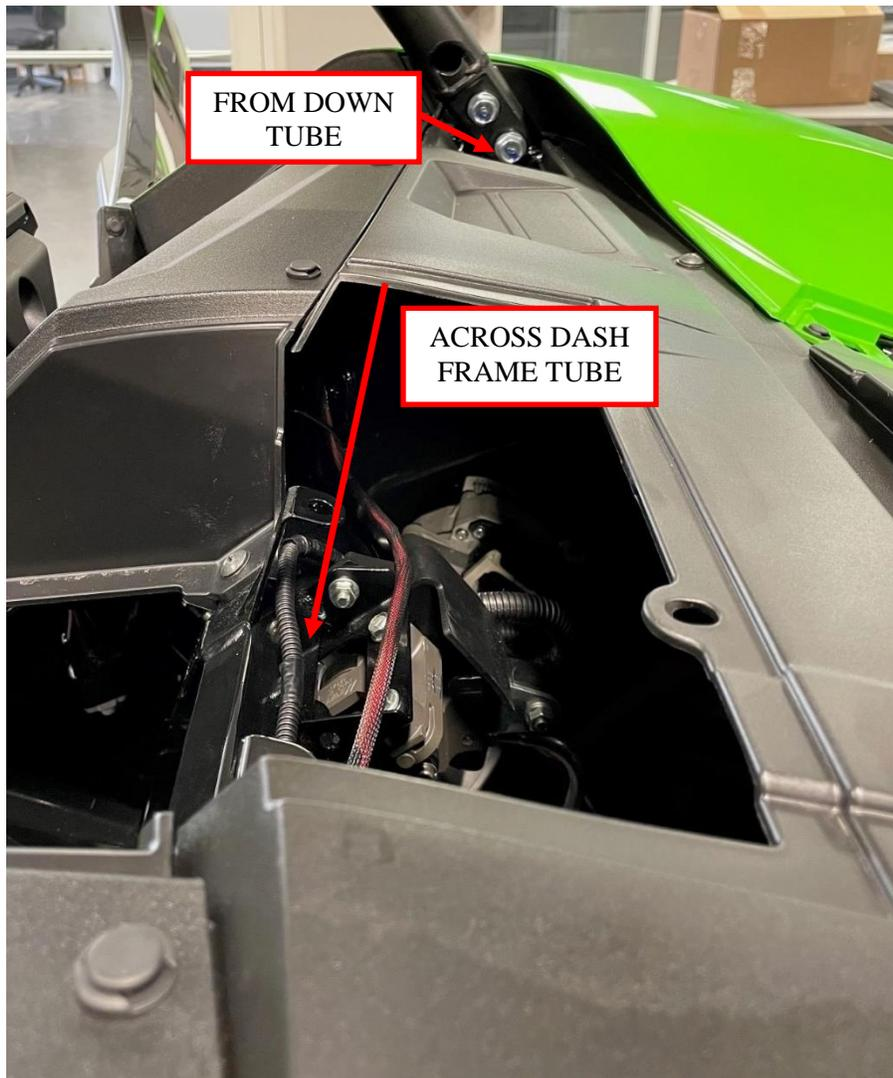

Figure 16: Route the ignition wire to the center dash area.
13. Route the chassis harness ignition wire behind the instrument cluster and across the upper dash frame tube toward the center dash area. See Figure 16.